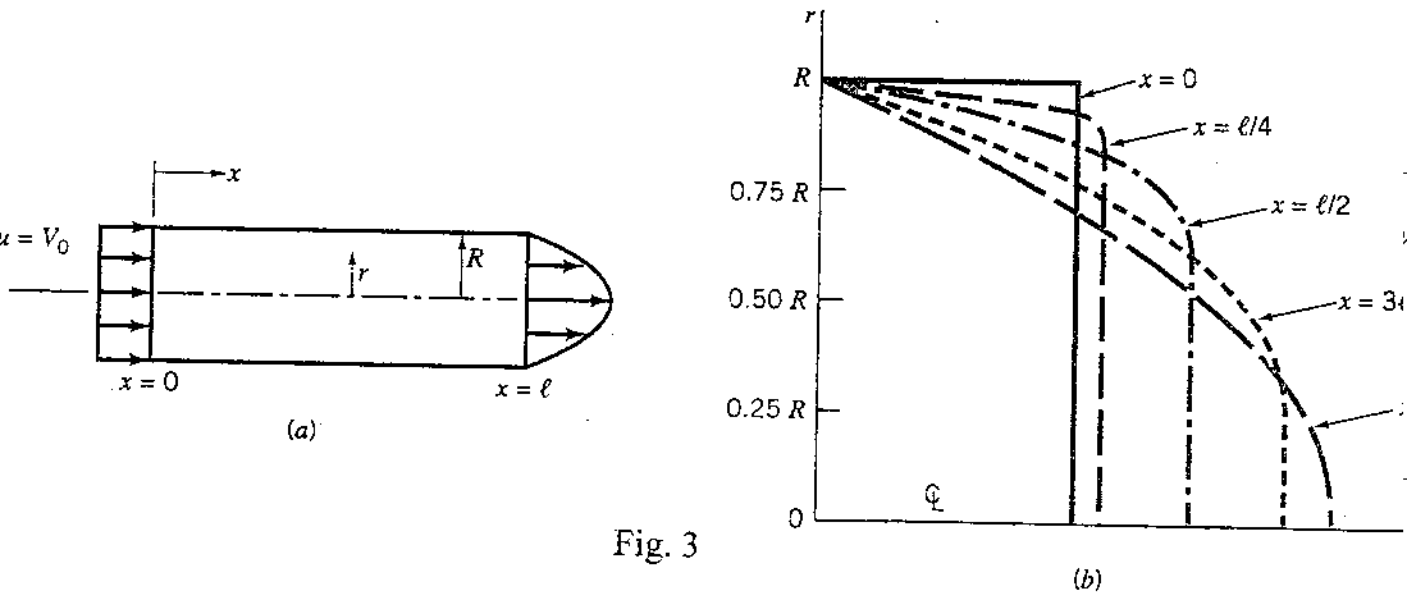

Fig. 3
(3) When a fluid flows into a round pipe as shown in Fig. 3, viscous effects may cause the velocity profile to change from a uniform profile to a parabolic profile $\{V = V_0 \hat{i}\}$ at the entrance of the pipe to a parabolic profile $\{V = 2V_0 [1 - (r/R)^2] \hat{i}\}$ at $x = l$. Velocity profiles for various values of x are as indicated in the figure. Use this graph to show that a fluid particle moving along the centerline ($r = 0$) experiences an acceleration, but a particle close to the edge of the pipe ($r \approx R$) experiences a deceleration. Does a particle traveling along the line $r = 0.5R$ experience an acceleration or deceleration, or both? Explain. (15%)